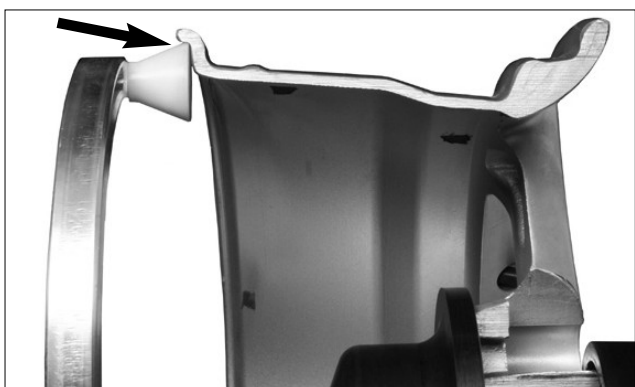
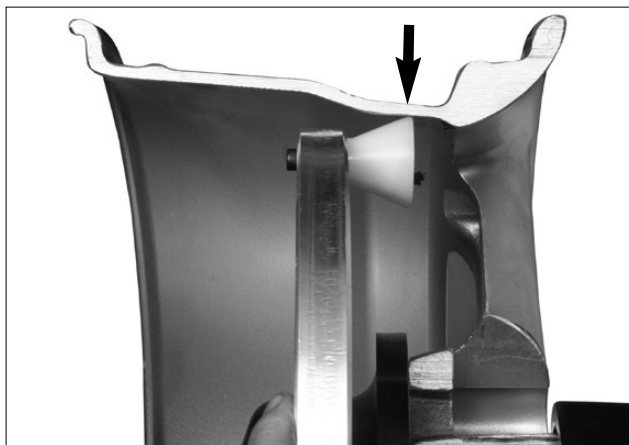
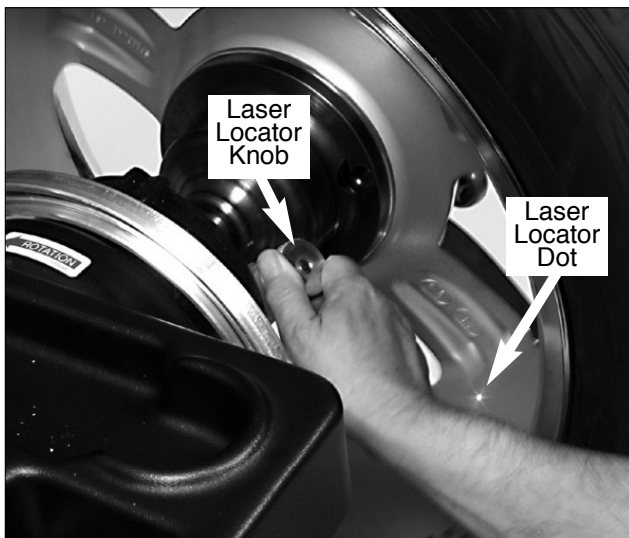
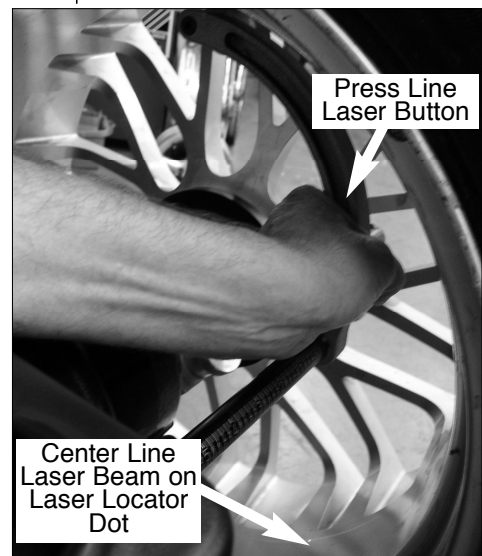

Figure 6B - Clip-on Weight Location Viewed on a Cut-Away Rim for Clarification.
Figure 7A - Hidden Weight Location Viewed on a Cut-Away Rim for Clarification.
Figure 8 - Positioning Laser Dot At T2 - Tape Hidden Weight Location (A2)
Figure 9 - Positioning Line Laser Beam At T2 - Tape Hidden Weight Location (A2)
When prompted by balancer instructions, use the offset arm (figure 6A) to enter A & D measurements automatically. Pull the arm out and up against the wheel flange; hold it still at the clip-on weight location (figure 6B), against the wheel flange, and wait for the BEEP.
Be sure to place the offset arm on the wheel flange at the clip-on weight location as shown figure 6B.
If the T2 - Tape (hidden Tape-A-Weight®) location is selected, use the offset arm to enter A2 & D2 measurements automatically. After the A & D measurement is entered, move the arm from the clip-on weight location to the inner area of the wheel; up against the rim at the outboard weight placement location (see figures 7A & 7B). Wait for the BEEP.
If the T2 - Tape (hidden Tape-A-Weight) location is selected, use the laser locator to point to the hidden weight location (figures 8 & 7B). Rotate laser locator knob to position the laser dot outboard at the desired T2-Tape (hidden Tape-A-Weight) location.
If the T2 - Tape (hidden Tape-A-Weight) location is selected, use the line laser to align the offset arm with the laser locator dot (figures 8 & 7B); entering A2 & D2 measurements automatically. Grasp arm at the line laser and pull out and up to the wheel flange (figure 6B). Hold arm still at the clip-on weight location and wait for BEEP. Then, before returning arm to home position, press button on line laser to activate the line laser beam. Move arm to inner area of wheel and align line laser beam with laser locator dot (figure 8). Hold arm still, up against the rim, in the same plane as the T2-Tape (hidden Tape-A-Weight) location (figure 7A & 7B) and wait for BEEP. Refer to figure 9.
3. Rotate the laser locator knob to position the laser locator dot at the desired weight location. See figures 8 & 7B.